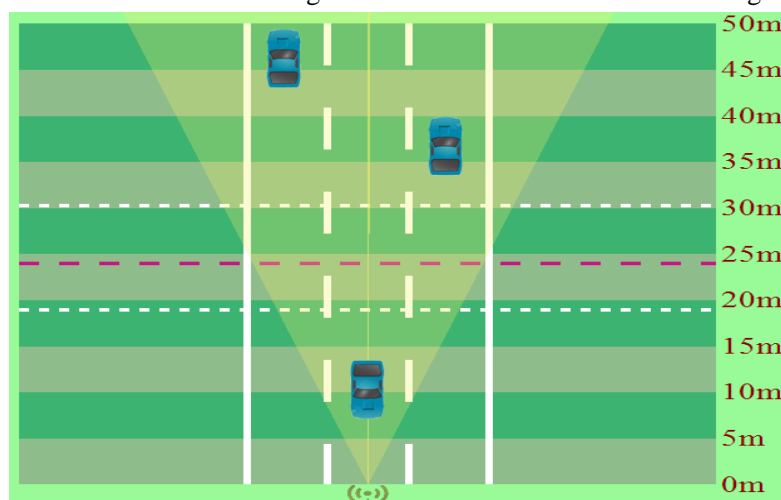

Figure 3.18: Target simulator interface
- (h). After the radar is calibrated correctly, it can be estimated that whether the target display coincided with the real traffic situation or not on target simulation interface. As shown in figure 3.18